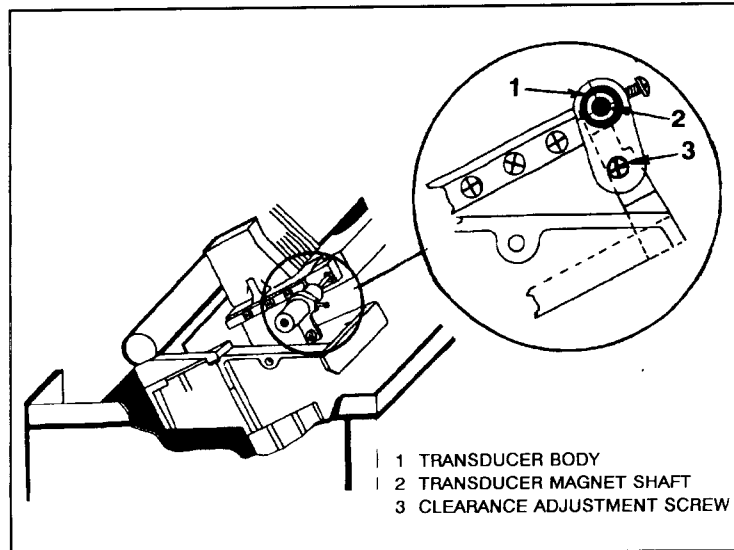

Figure 5-4. Velocity Transducer Clearance Adjustment
The Clearance Adjustment centers the magnet in the center of the velocity transducer body (see Figure 5-4) so that as the magnet moves in and out of the transducer body it does not scrape the sides. The clearance adjustment can be completed with or without the special centering tool (P/N 02566-20152) as described in steps c and d, below.
- b. Loosen the clearance adjustment screw (see Figure 5-4).
If not using the centering tool, view down the velocity transducer shaft to see the position of the magnet with respect to the shaft sides (see Figure 5-4).